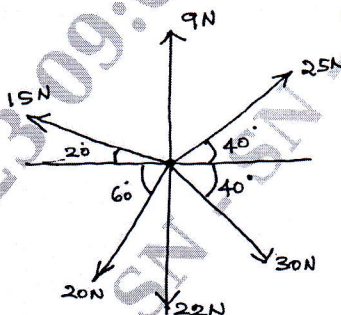

Fig.Q4(b)
b. Determine the magnitude and direction of Resultant Force for concurrent force system shown in Fig.Q4(b).